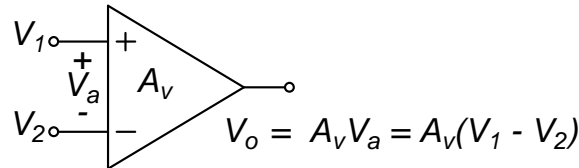
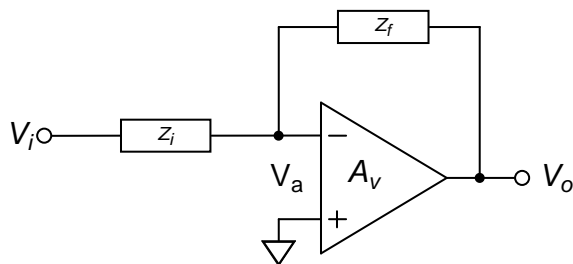
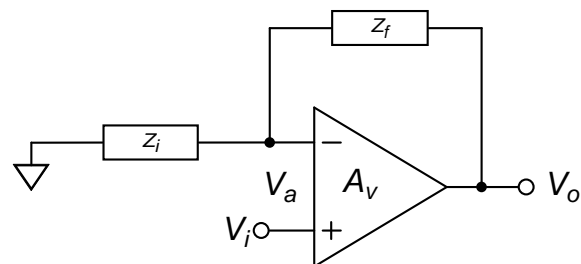
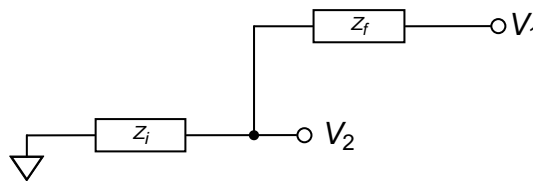

Figure 1. Op Amp in an "open-loop" configuration
Figure 3. Inverting Op Amp Configuration
Figure 4. Non-Inverting Op Amp Configuration
Figure 6: Op Amp Feedback Network
Let's start by reviewing the basics. Op Amps are high-gain DC coupled amplifiers usually intended to amplify signals over a wide frequency range. They have a differential input and a single-ended output. This is illustrated in Figure 1.
Figures 3 and 4 show the inverting and non-inverting Op Amp configurations. The impedances Z_i and Z_f “close the loop” and determine the “gain” of the circuit (in addition to other characteristics). Looking at Figure 3, the output voltage is “fed back” to the inverting input terminal. This provides the negative feedback discussed above⁴. Think in these terms: as the output voltage increases, the voltage at the inverting input (V_2 in Figure 1) increases (remember Superposition?), which causes the difference $V_1 - V_2$ to decrease, which causes the output to decrease. This is negative feedback.
How does this help? Again referring to Figure 3, because there is negative feedback, the output can drive the input differential voltage V_a to zero. Then the signal, or closed-loop, gain can be determined by applying KCL at the inverting input terminal.
The ideal analysis of the circuit in Figure 4 is similar. However, if $V_a = 0$ V, the voltage at the inverting input node must be V_i and the analysis yields:
The input offset voltage (V_{OS}) is a DC error in the Op Amp and equals the voltage that needs to be added to the input to result in a zero volt output. It is usually a few microvolts to a few millivolts. Because of the high open loop gain of an Op Amp, this is never measured directly but instead, the Op Amp is configured as a non-inverting voltage follower (Figure 4 with $Z_i = \infty$ and $Z_f = 0 \Omega$) with V_i grounded. In this configuration, the output voltage equals V_{OS} . If you want to determine the effect of V_{OS} on the output voltage, it can be modeled as a voltage source in series with either the inverting or non-inverting input pin of the device. Eliminating this parameter by assuming it is zero slightly simplifies an analysis. However, the easiest way to include offset voltage in the analysis is to use superposition and analyze it separately. Thus, the contribution to the output voltage due to V_{OS} for the amplifiers in either Figure 3 or Figure 4⁵ is given by:
The input bias current is the current flowing into or out of the input terminal. Bias currents are modeled as current sources from each input pin to ground and can range from femtoamps (for electrometer type Op Amps) to microamps. The direction of current flow is also a function of the design and manufacturing and cannot be predicted without some additional knowledge of the device. Again, eliminating bias currents makes the ideal analysis simpler, but it can be easily included again by using superposition. Referring to Figures 3 and 4 and assuming the bias current flows from ground to the input pin, the output voltage contributions are given by:
Again, resistances are used because this is a DC error. The contribution due to the non-inverting input bias current is zero because there is no resistance present for it to develop a voltage across. This is certainly the case in Figure 3. In Figure 4 this is problematic as V_i is most likely generated by a source having a source impedance. In this case, the contribution becomes:
⁵ When you apply superposition to compute the output contribution due to V_{OS} to the amplifiers in Figures 3 or 4, the circuits become identical.
Similarly, it is possible to compensate for input bias current. In Figure 3, if a resistor is added between the non-inverting input and ground with a value equal to $R_f || R_i$, the output voltage due to the bias currents is eliminated. This can be shown using Equation (8) and letting $R_s = R_f || R_i$.
The problem is more difficult with the circuit in Figure 4. Because it is likely that the source impedance driving V_i is low, it is difficult to make $R_s = R_f || R_i$. It is possible to add a
CMR is common mode input range. CMRR is common mode rejection ratio. Common mode (CM) voltage is frequently misunderstood. Referring to Figure 1, the common mode voltage is defined as
As noted above, Op Amps are *differential* amplifiers; they are intended to respond only to the voltage difference between the input terminals. In Figures 3 and 4 above, this is how we analyzed the circuits. Note however that there is an important difference in these circuits. In Figure 3, the common mode voltage is zero. In Figure 4, $V_{CM} = V_i$. In the ideal model we assume this will have no effect. In reality, there are two considerations. First, there is a limit to how close the input can get to the power supply rails. This is the CMR and occurs because the input transistors of the Op Amp must remain properly biased for linear operation. Second, there is a contribution to the output voltage due to the common mode input voltage. This is the common mode gain; more commonly the reciprocal is used and referred to as the CMRR. CMRR is a function of frequency and is a measure of how well the Op Amp rejects common mode signals. Generally, CMRR is high (low CM gain) at low frequencies but drops -20 dB/decade as frequency increases. Thus, high frequency CM signals can be a problem. In this respect, the amplifier in Figure 3 will perform “better” than the amplifier in Figure 4.
have a ground terminal. Ground is implied. This is easy to ignore. After all, most amplifiers, at least the older ones, operate from $\pm 15\text{ V}$ or $\pm 12\text{ V}$ rails and are biased symmetrically above and below ground. “Ground” is than half way between the rails and everything works as long as your signals remain a volt or two inside the rails. However, what happens when you use a single supply Op Amp? If the amplifier in Figure 3 is operated from 5V to ground, caution is required because the non-inverting terminal is connected to ground. First, this will likely violate the common mode input range for the device because there is no “headroom” to bias the input circuitry properly⁷. Second, this is an inverting amplifier. However, as the output cannot go below ground, it will only work when V_i is negative. Finally, the amplifier will not work for small input voltages because the output cannot get close enough to ground to drive the inverting input to zero volts. Operating a single supply Op Amp in this manner is a very common error because there is a generally poor understanding of common mode input range.
Now let's take a closer look at one of the key assumptions made above, infinite open loop gain. This assumption enabled us to quickly and easily analyze the circuits in Figures 3 and 4. Of course, the reality is that open loop gain is finite and is a function of frequency. Op Amp open loop gain is often approximated using a single pole at ~10Hz. Gains at DC can be 80 dB to 140 dB, depending on the speed or precision of the device, and a single pole causes a 90° phase shift. I'm jumping ahead a little, but problems don't occur until the phase shift¹¹ starts approaching 180°. Op Amps actually have several poles in their frequency response because internally they can have 2 to 5 amplifier stages. How much of an effect this has depends on the location of the other poles. A fully compensated Op Amp, also called unity-gain stable, is one in which the 2nd pole has been shifted up in frequency to the point where the phase shift is $\ll 180^\circ$ when $A_v = 0$ dB¹². This point is known as the unity-gain bandwidth or gain-bandwidth product (GBW or f_T).
Let's introduce some more definitions. The feedback factor (β) is defined as the fraction of the Op Amp output that is fed back to the input. This is a critical parameter and it will be shown below that much about the Op Amp's AC performance and stability can be predicted from this value. Using the amplifier from either Figure 3 or Figure 4 and removing the Op Amp for simplicity, the feedback factor can be defined as (reference Figure 6):
Similarly, for the non-inverting amplifier in Figure 3 we obtain an expression for the closed loop non-inverting gain $A_{vcl}(non)$.